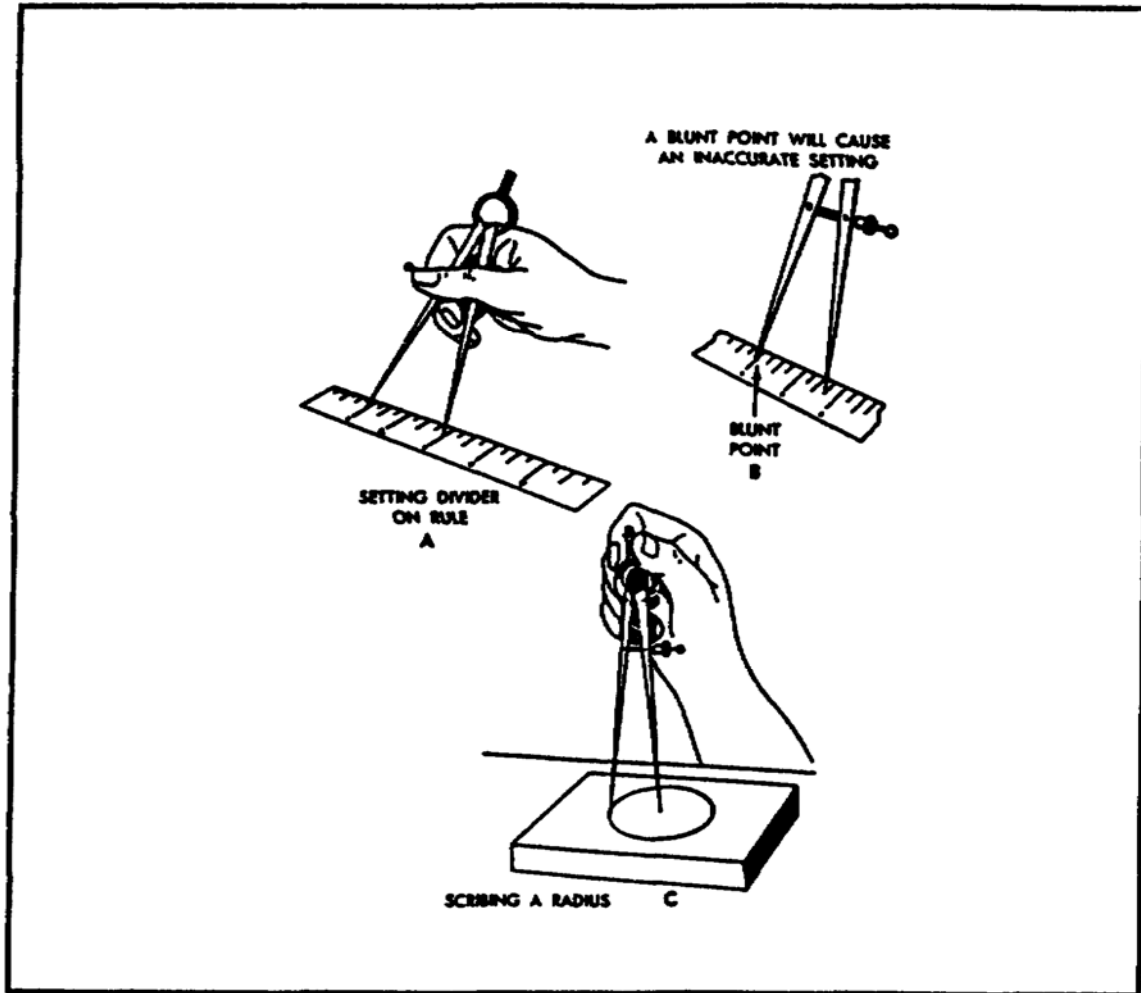

FIGURE 179. USING DIVIDERS.
c. *Use of Dividers.* In setting a divider to a dimension on a scale, the usual procedure is to locate one point in one of the inch graduations of the rule and to adjust the nut or screw so that the other point falls easily into the correct graduation (figure 179, view A). Make sure certain points of the divider are not blunt (figure 179, view B).
When transferring a dimension from a part or tool to the scale on a rule, use the same care in adjusting the points of the dividers, making sure there is no pressure tending to spring the points either in or out. Illustrated in figure 179,